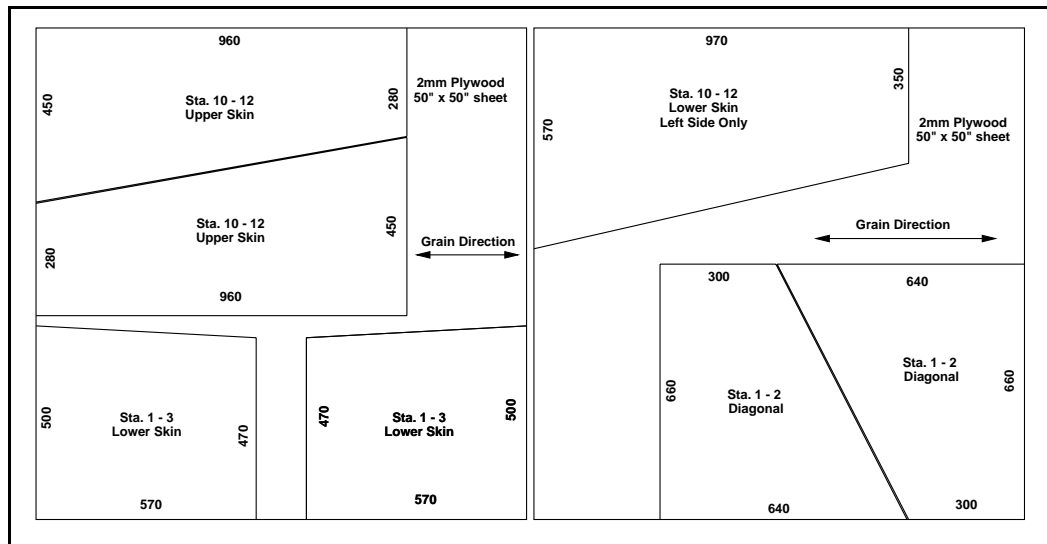

Figure 4
- Cut two 50" x 50" sheets of 2mm birch plywood as shown in Figure 4.